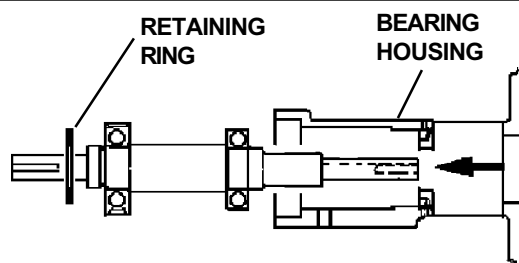

Figure 44
5. Remove the retaining ring and press the bearings off the shaft. (Figure 44)